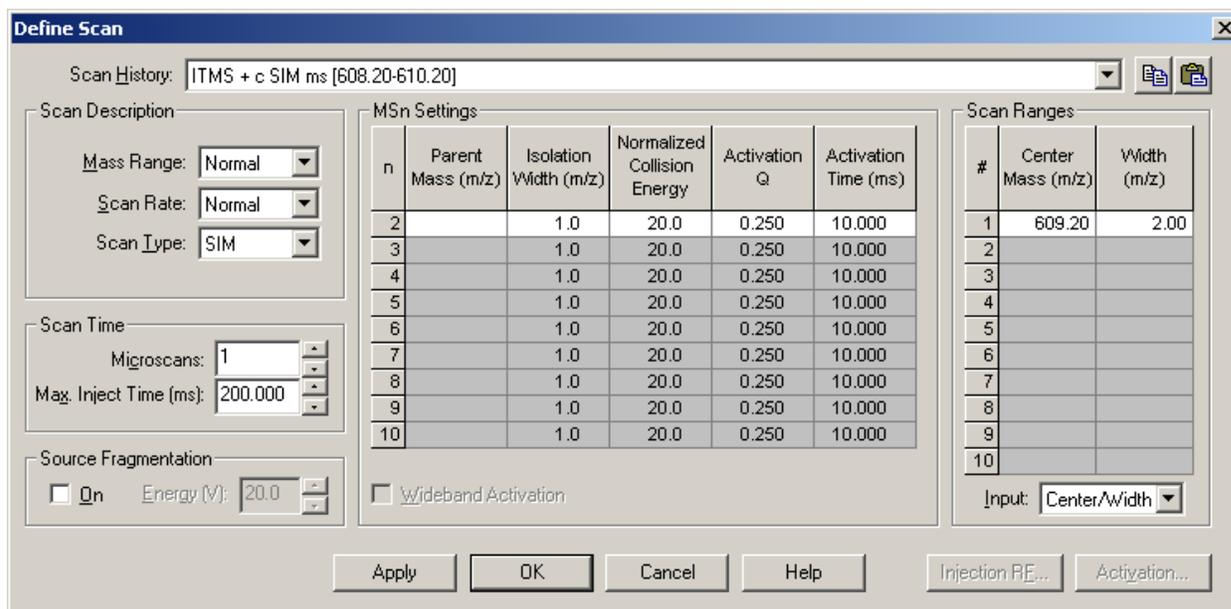

Figure 32. Define Scan dialog box, showing typical settings for acquiring reserpine data of the SIM type
- a. In the Instrument Control toolbar, click **Define Scan** to open the Define Scan dialog box. See Figure 32.
- i. In the Scan Ranges group box (Scan Ranges table), in the Center Mass text box, type the mass of your analyte to set the center of mass for the scan range. If reserpine is the analyte you would enter 609.20 to set the center mass for the scan range to m/z 609.20. If you are using another analyte enter its mass value into the Center Mass text box (Figure 32)
- k. Verify that the settings in your Define Scan dialog box are the same as those shown in Figure 32.